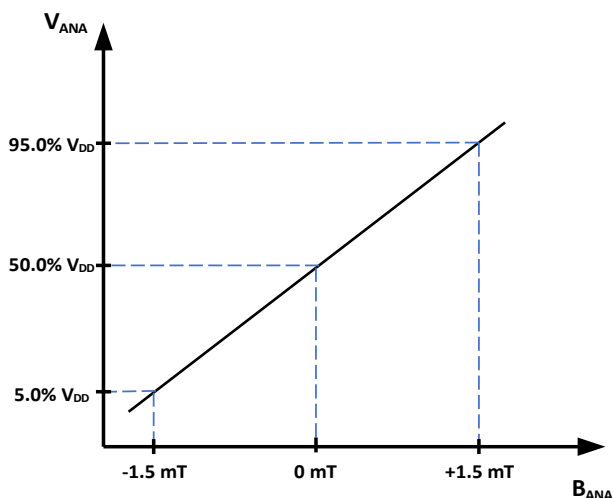
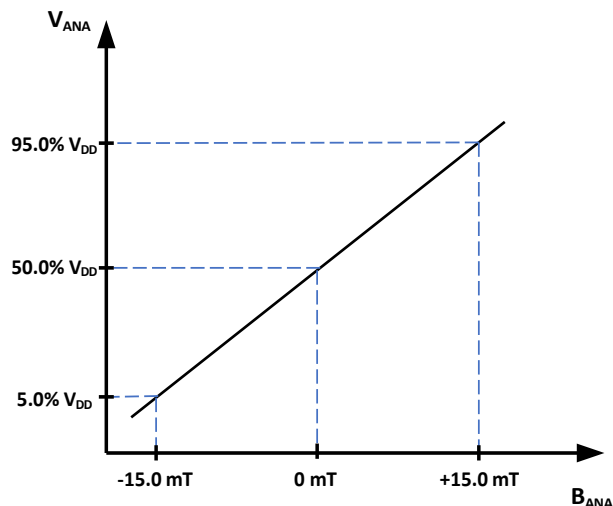

Figure 10: Linear Output Voltage Range vs. Measured Current for $G = 300 \text{ mV/V/mT}$ and Current Range of +1.5 mT.
Figure 11: Linear Output Voltage Range vs. Measured Current for $G = 30 \text{ mV/V/mT}$ and Current Range of +15 mT.
The CT220 provides a continuous (sample and hold) linear analog output voltage that represents the measured magnetic field. The output voltage range of that ANA pin is 5% to 95% of V_{DD} , which represents the magnetic field from the minimum of the range (-1.5 to -15 mT) to the maximum of the range (1.5 to 15 mT), respectively. The output sample frequency is 200 kHz. To further lower the noise, a resistor-capacitor (RC) filter can be implemented on the ANA pin. The output voltage range of the ANA pin is illustrated as a function of the measured field for the maximum gain variant and the minimum gain variant in Figure 10 and Figure 11, respectively.